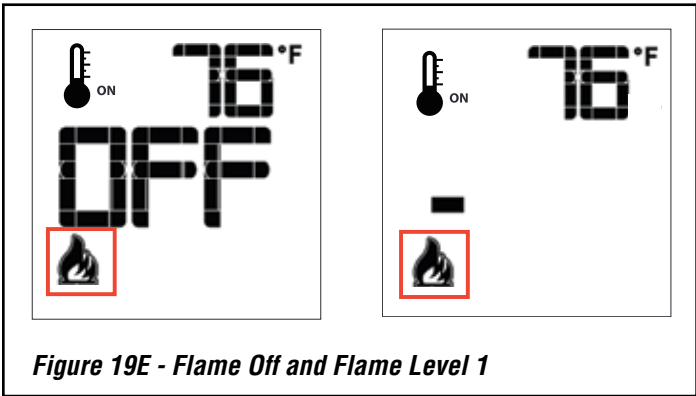

Figure 19E - Flame Off and Flame Level 1
When you turn on the fireplace it starts on high. The Proflame II has six (6) flame levels. Each time you press the Down Arrow Key once the flame height will reduce by one step (**Figure 19E**).